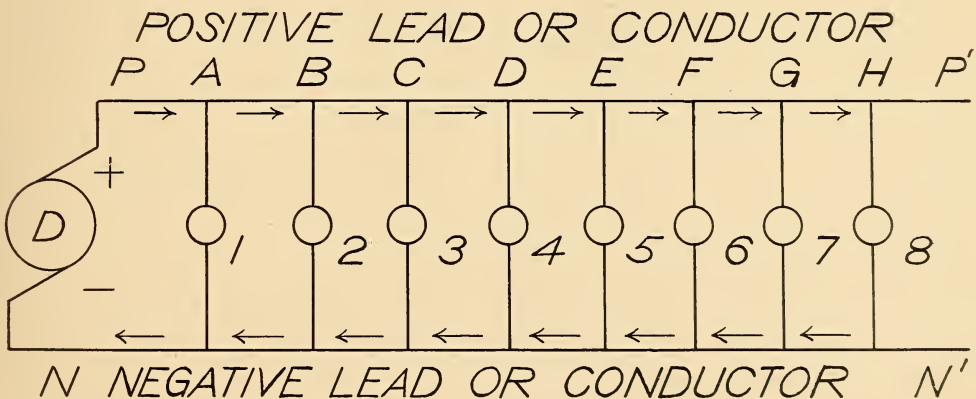

FIG. 13. MULTIPLE OR PARALLEL CONNECTION OF EIGHT LAMPS.
Fig. 13 represents the multiple or parallel connection of eight separate incandescent electric lamps to the dynamo (D). Here the positive poles of all the lamps are connected with the positive lead or conductor (P P'), and the nega-